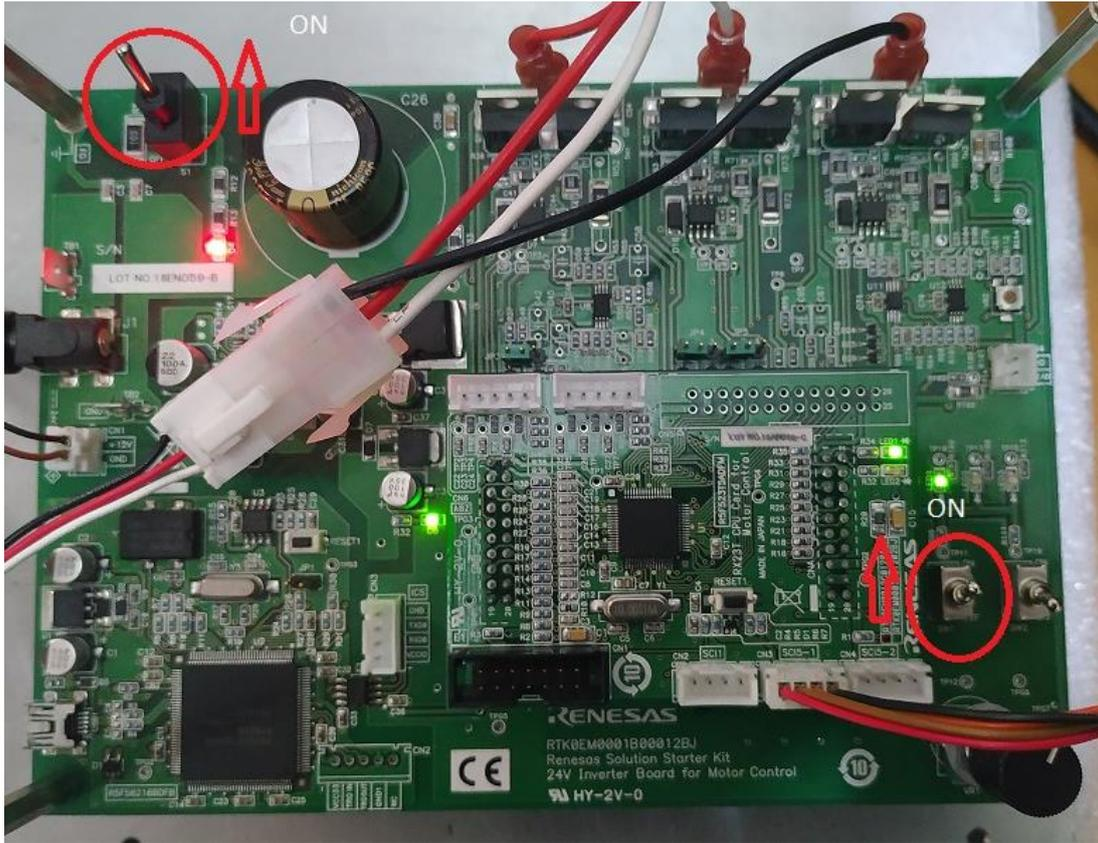

Figure 8 Switch conditions of RX23T
- Figure 8 below shows the switch conditions required to run the motor